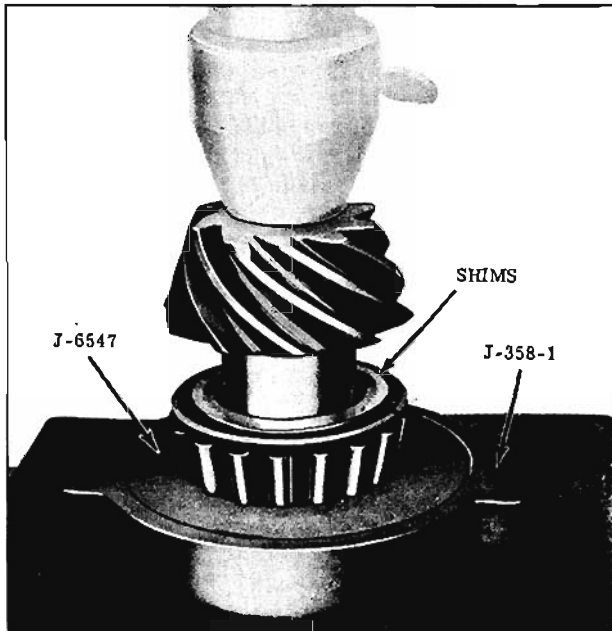

Fig. 10-30 Installing Bearing on Pinion Shaft
- Lubricate the rear bearing roller assembly, then press the rear bearing inner race and roller assembly firmly in place against the shims on pinion shaft. (Fig. 10-30)